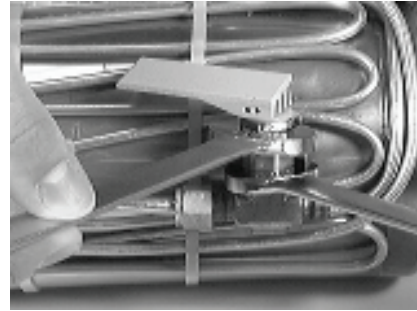

Figure 21: Vent Valve Removal
- 4) Use a 5/8 inch open-wrench on the vent valve body hex flats to hold the body stationary. Use a 11/16 inch open end wrench to loosen the jam nut that holds the vent valve to the mounting bracket (Figure 21).